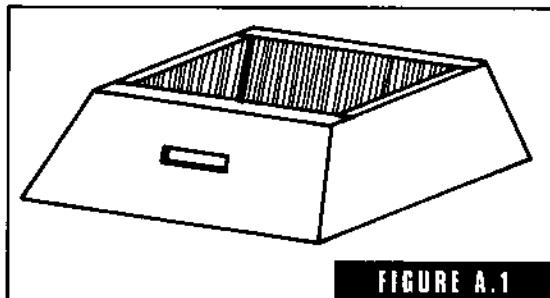

FIGURE A.1
**adjustable jackets** A loosely cornered slip jacket which will adjust to the taper of the mold and afford a good close fit (Fig. A-1). A popular brand adjustable jacket sold under the name Wopper Jaw jacket is manufactured by Products Engineering, Cape Girardeau, MO.